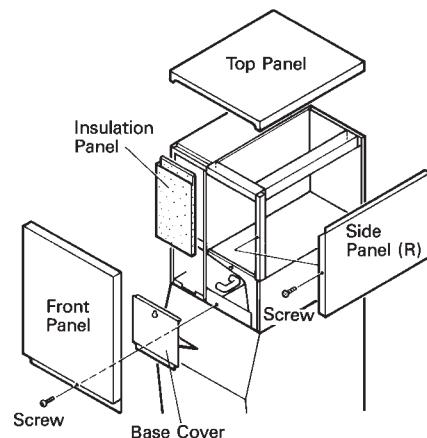

Fig. 1
B. How to Remove Panels See Fig. 1
- Side Panel (R): Remove the screw. Pull slightly towards you, and lift off.